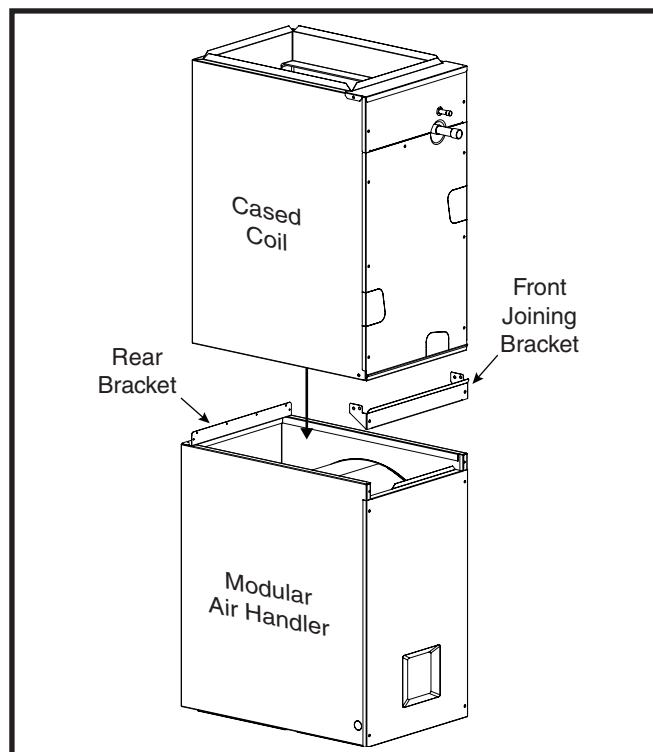

Figure 4. Downflow Brackets
4. Carefully place the cased coil on top of the modular air handler. **NOTE:** Make sure the units are flush in the front and on the sides with a "step" fit in the back and that there are no gaps on the sides. See Figure 4.